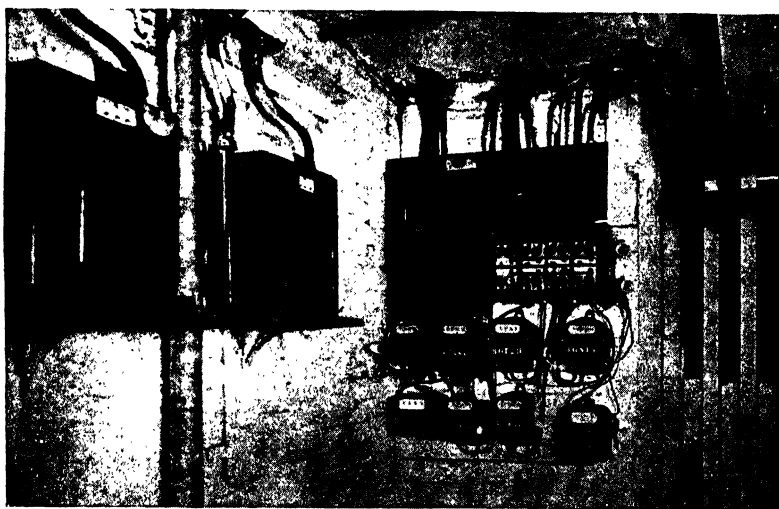
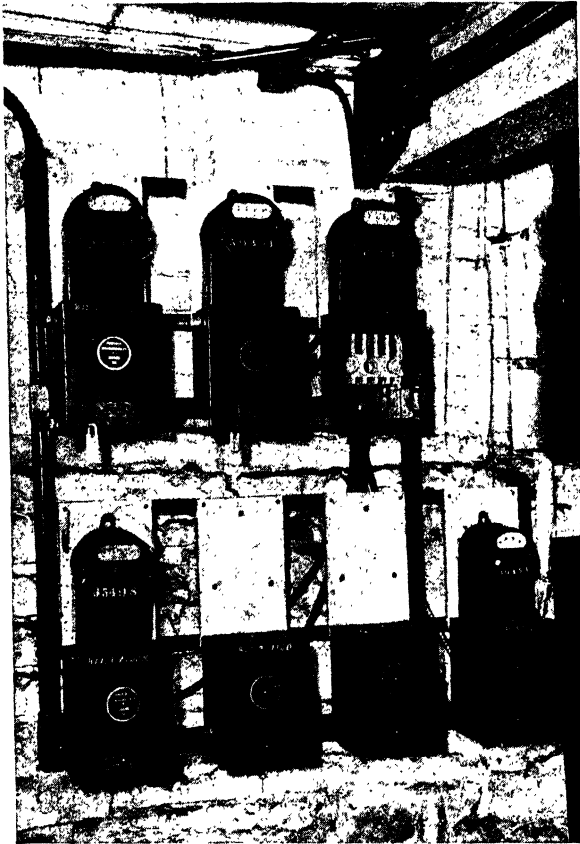
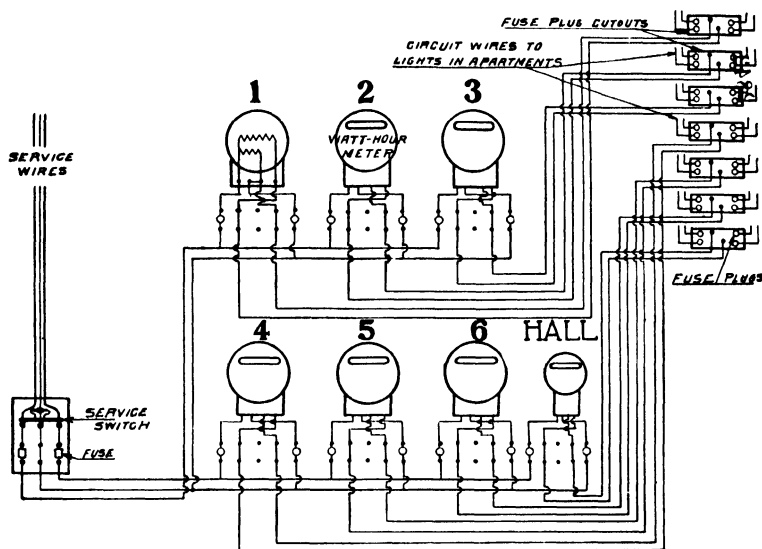

Fig. 15. Old Method of Installing Meters
Fig. 16. Another Method of Installing Meters
Fig. 17. Wiring Diagrams of Meter Installation Shown in Fig. 16
**Service Conduit and Meter Wiring.** The old method of meter wiring was to mount the meters directly below the iron box containing the branch circuit fuses and to run open wires or else wires in non-metallic loom to the meters as shown in Fig. 15. In this figure there are eight electric meters in the right center of the picture, which indicates that there are eight apartments supplied from this meter installation. There are two gas meters shown at the extreme left of the picture. It is dangerous to have a number of wires hanging around the meters as shown in Fig. 15, so the practice of inclosing all the wires in conduit to the meters was adopted. This method is illustrated in Fig. 16. In this picture the meter
wiring for six apartments is shown although only five of the seven meters are installed. The other two meters will be installed by the power company when needed. A wiring diagram of this installation is shown in Fig. 17. Fig. 16 does not show the service switch or the iron box containing the fuse, plug cutouts, and fuse plugs for the branch circuits. There are fuses in the iron boxes below the meters which protect the wiring through the watt-hour meters to the fuses in the branch circuit. These fuses are indicated on the wiring diagram by small circles below the watt-hour meters.